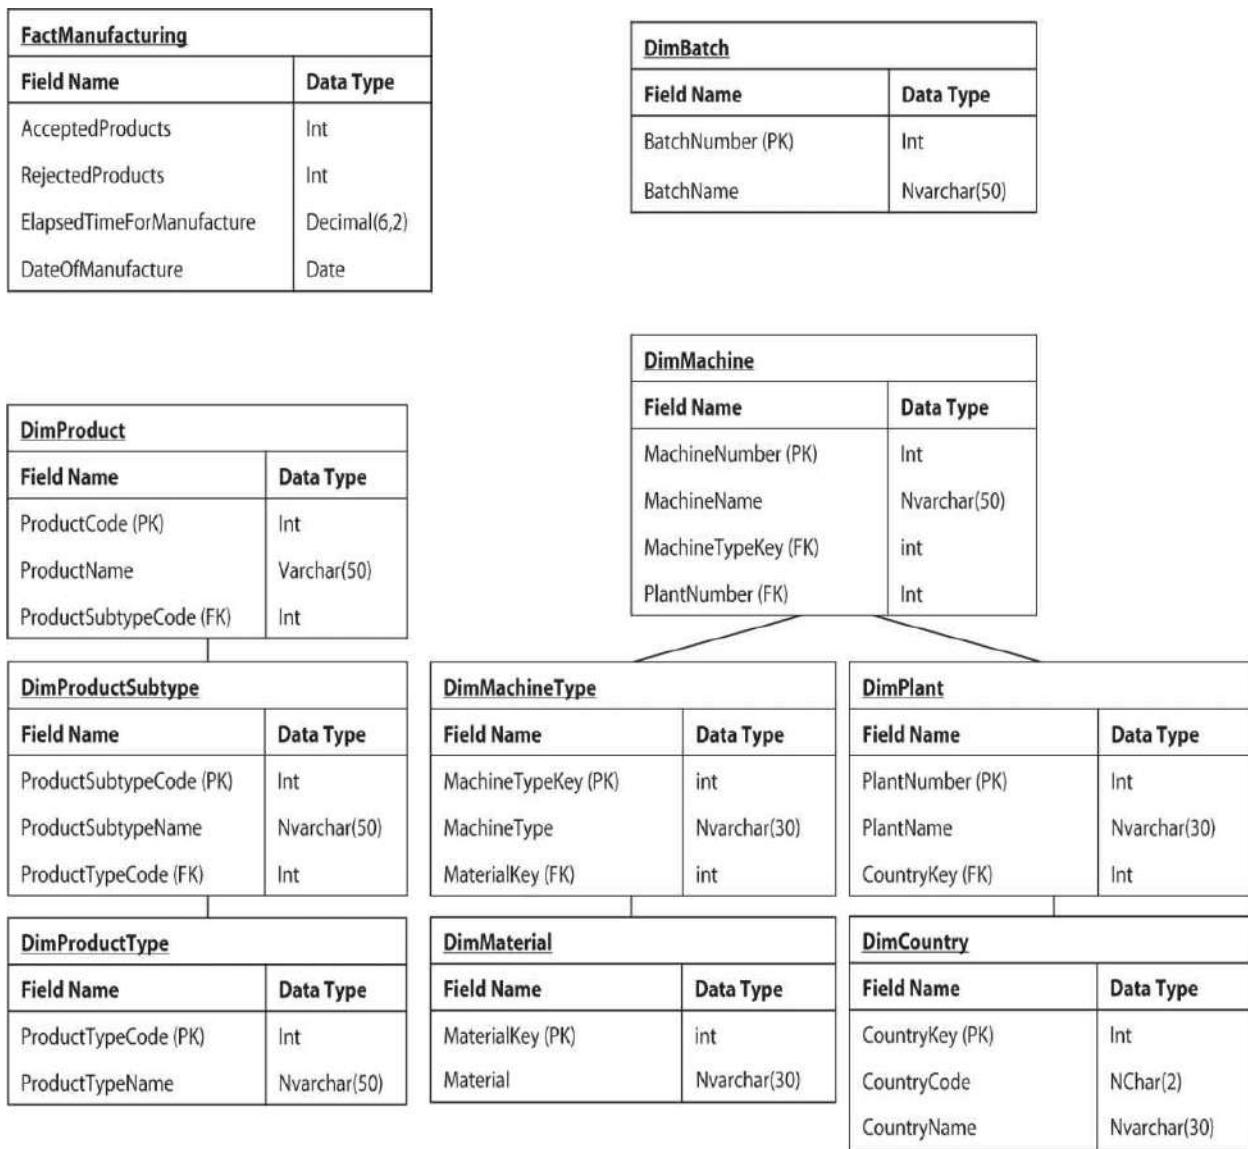

Figure 6-16 The Manufacturing data mart schema with hierarchies added
15. For any dimension that does not have an integer key, add your own integer key field. This is known as a *surrogate key*. We do this because integer keys are more efficient within the data models. The value of the surrogate key will be assigned when the data is loaded into the data mart. In our example, the country, machine type, and material dimensions will need surrogate keys. This is shown in Figure 6-16.
16. Create the dimensional hierarchies by adding foreign keys to the dimension tables. This is shown in Figure 6-16.